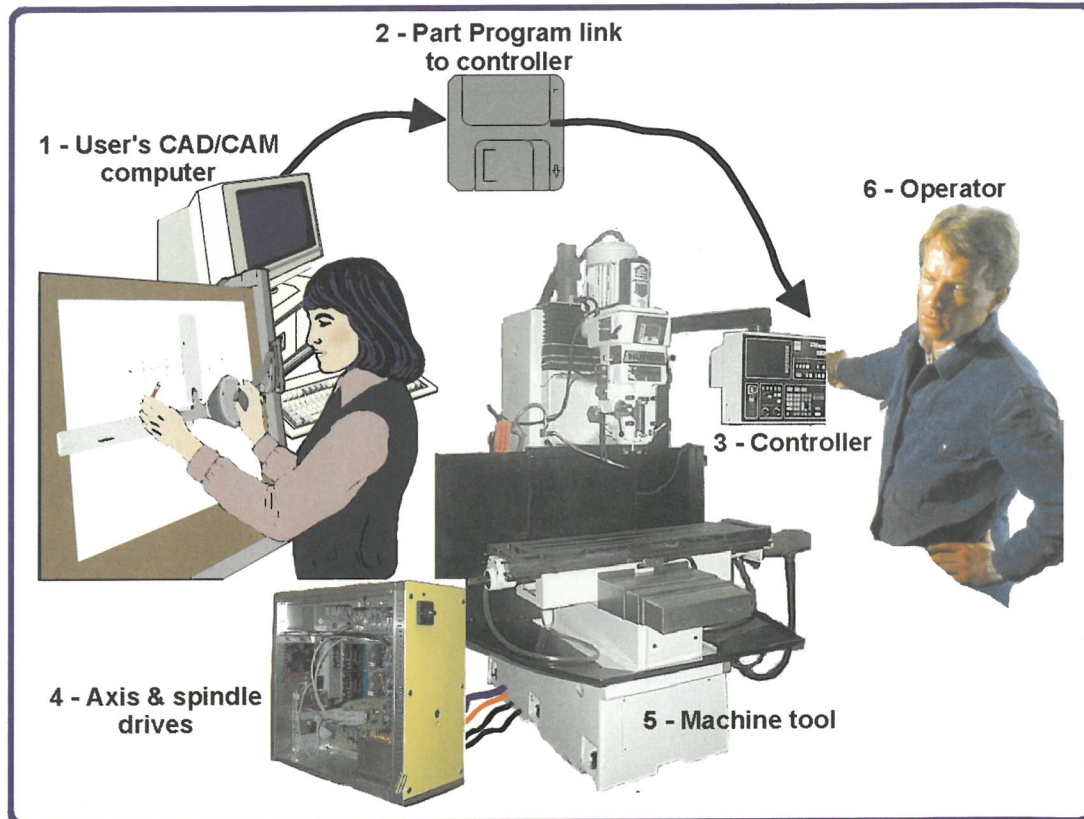

Figure 2.1 – A typical CNC machining system
The main parts of a system for numerically controlled mill are shown in figure 2.1
Mach3 is a software package which runs on a PC and turns it into a very powerful and economical Machine Controller to replace (3) in figure 2.1.
To run Mach3 you need Windows XP (or Windows 2000) ideally running on a 1GHz processor with a 1024 x 768 pixel resolution screen. A desktop machine will give much better performance than most laptops and will be considerably cheaper. You can of course use this computer for any other functions in the workshop (such as (1) in figure 2.1 - running a CAD/CAM package) when it is not controlling your machine.